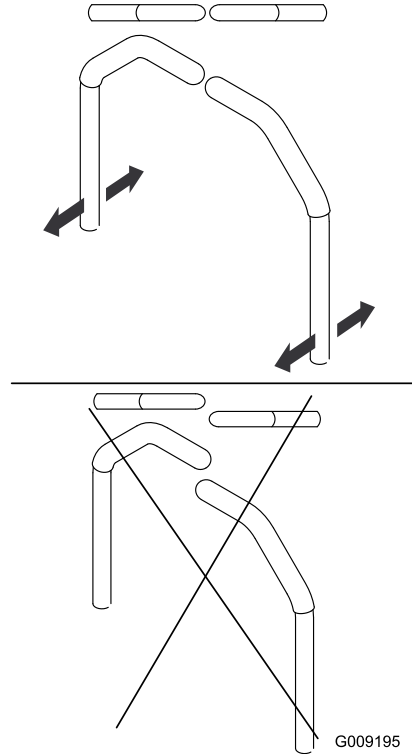

**Figure 49**
- If the machine tracks to the right, loosen the bolts and adjust the left stop plate rearward on the left T-slot until the machine tracks straight (Figure 49).
- If the machine tracks to the left, loosen the bolts and adjust the right stop plate rearward on the right T-slot until the machine tracks straight (Figure 49).
8. Tighten the stop plate (Figure 49).